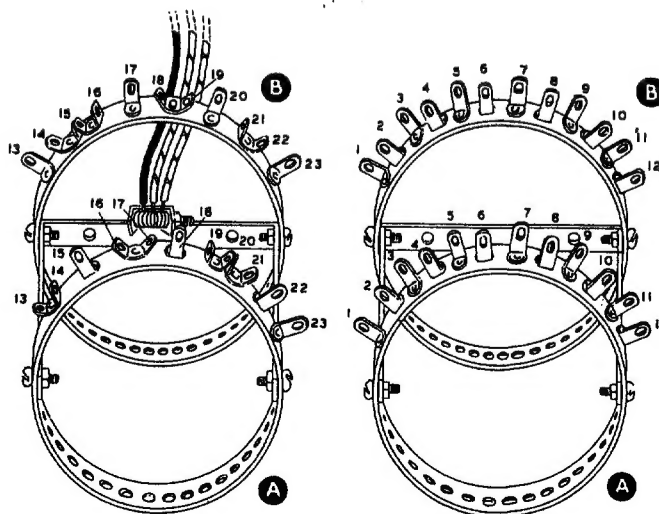

Figure 9
- ( ) Study Figure 9 carefully and compare the rings with the figure to identify them. You will note that the A ring is black and the B ring is brown.
( ) Mount the rings to the ring bracket as shown in Figure 9, using 3-48 screws and nuts.
( ) Mount the meter rectifier to the ring bracket with a 3-48 screw and nut. Position as shown in Figure 9.
See Figures 9, 10, 11 and 13.